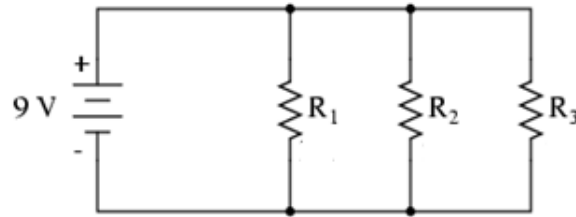

Figure 1: Parallel combination resistive circuit
- Write a BASIC program which calculate equivalent resistance (R_{eq}) of parallel combination circuit shown in Figure 1.